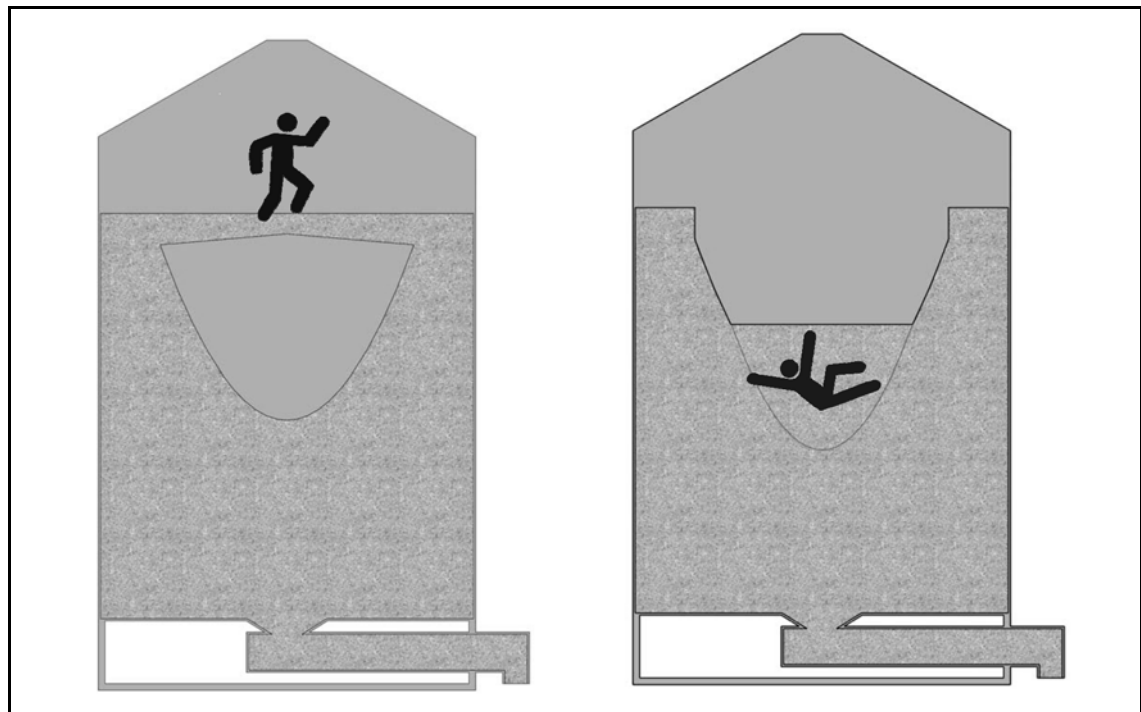

Figure 2.1 Bridged Grain Collapse
- Never walk on the grain crust—the crust rarely becomes strong enough to support the weight of a person. See Figure 2.1.